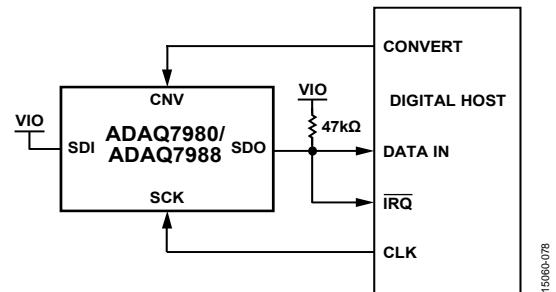
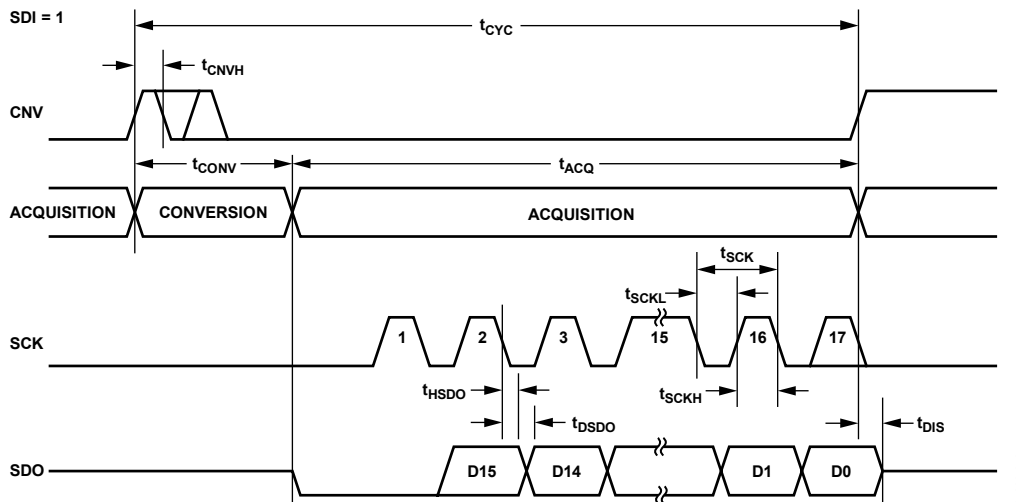
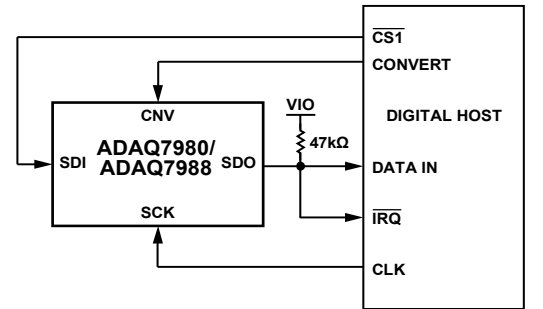
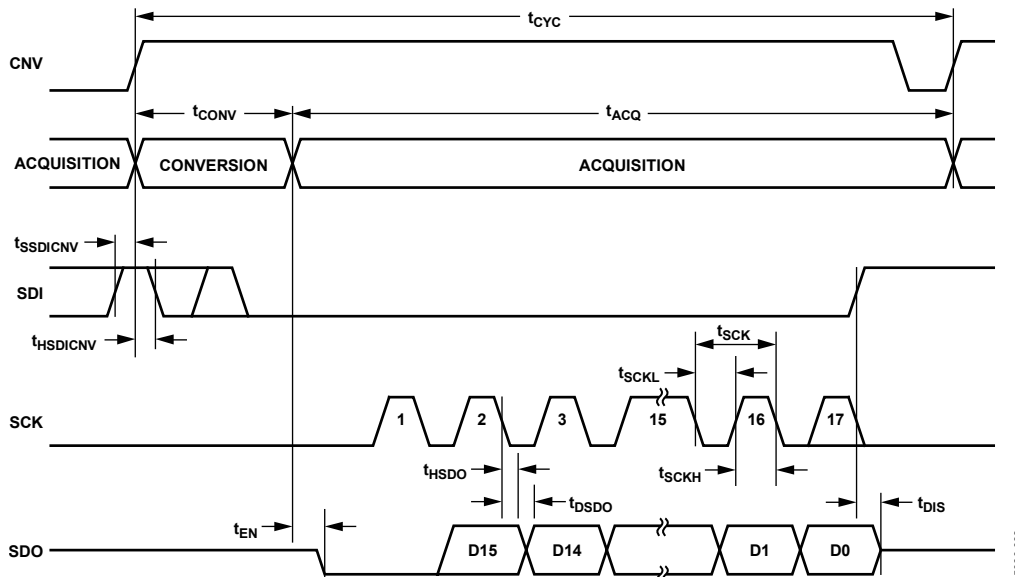

Figure 73. 3-Wire  $\overline{\text{CS}}$  Mode with the Busy Indicator Connection Diagram (SDI = 1, High)
Figure 74. 3-Wire  $\overline{\text{CS}}$  Mode with the Busy Indicator Serial Interface Timing (SDI = 1, High)
Figure 77. 4-Wire  $\overline{\text{CS}}$  Mode with the Busy Indicator Connection Diagram
Figure 78. 4-Wire  $\overline{\text{CS}}$  Mode with the Busy Indicator Serial Interface Timing
- In  $\overline{\text{CS}}$  mode if CNV or SDI is low when the ADC conversion ends (see Figure 74 and Figure 78).
Figure 73 shows the connection diagram, and Figure 74 shows the corresponding timing.
Figure 77 shows the connection diagram, and Figure 78 shows the corresponding timing.